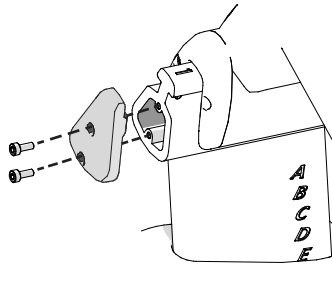

Figure 11
- 3. Attach the handlebar post end cap using two bolts ❹ (Figure 11) and fully tighten with the hex key ❷.